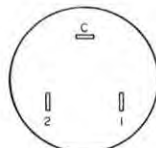

Fig. 3. Rear of R1, Showing Identification of Switch Lugs.
- Refer to Fig. 3, a view of the switch lugs on the rear of volume control R1. Solder the red lead of the battery clip to the "C", or common, lug.